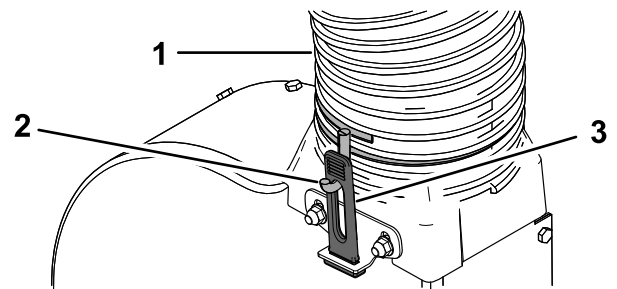

Figure 22
2. Thread the hose clamp onto the other end of the new hose 2 to 3 turns (Figure 22).
3. Install the hose over the blower transition so that the hose forms an approximately 90-degree bend from the hood. Adjust the orientation of the hose-clamp hooks as needed so that they align with the rubber latches, and secure the hose by stretching the rubber latches over the hooks (Figure 22).